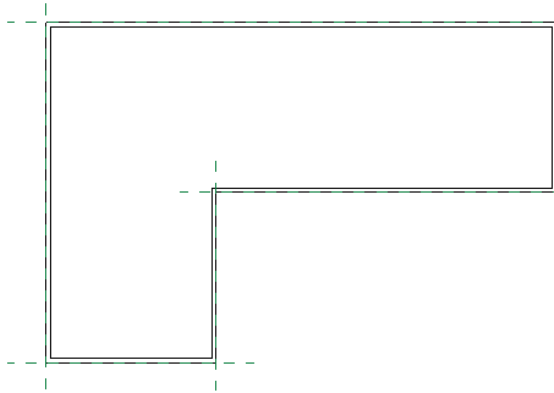

FIGURE 1.8 Walls placed inward from the floor edge
5. You want your walls to be inward from the green reference line, so move your mouse slightly inward from the floor edges — until the blue dotted line is on the inside — then click your mouse. Repeat for each edge until your drawing looks similar to Figure 1.8.